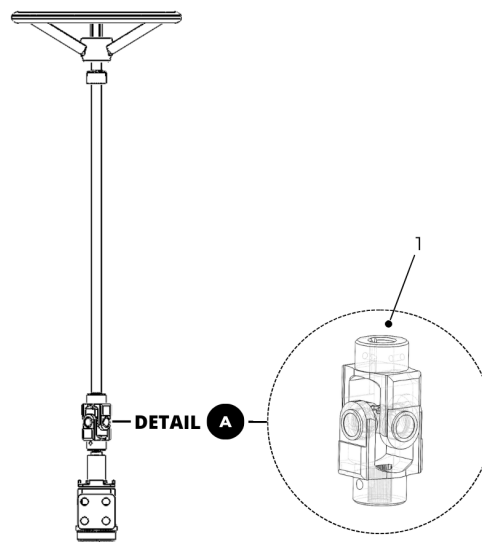

Figure 25. Universal Joint Inspection (Stand-Up Version).
1. Inspect the universal joint (1) and the four tie rods ends (2) for (See Figures 25 and 26):
Lubricate the grease fittings of the following components (See Figures 25 and 26) :